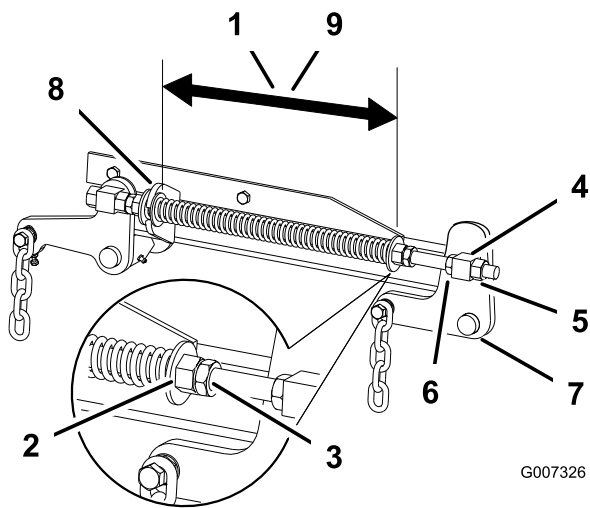

Figure 61
2. Check the distance between the two large washers, it needs to be 11-1/8 inches (28.2 cm) for 52 inch mower decks and 10-1/2 inches (26.7 cm) for 60 inch mower decks (Figure 61).
3. Adjust this distance, by loosening the spring jam nut and turning the nut in front of each spring (Figure 61). Turning the nut clockwise will shorten the spring; counter-clockwise will lengthen the spring.
4. Lock the nut into position by tightening the spring jam nut (Figure 61).